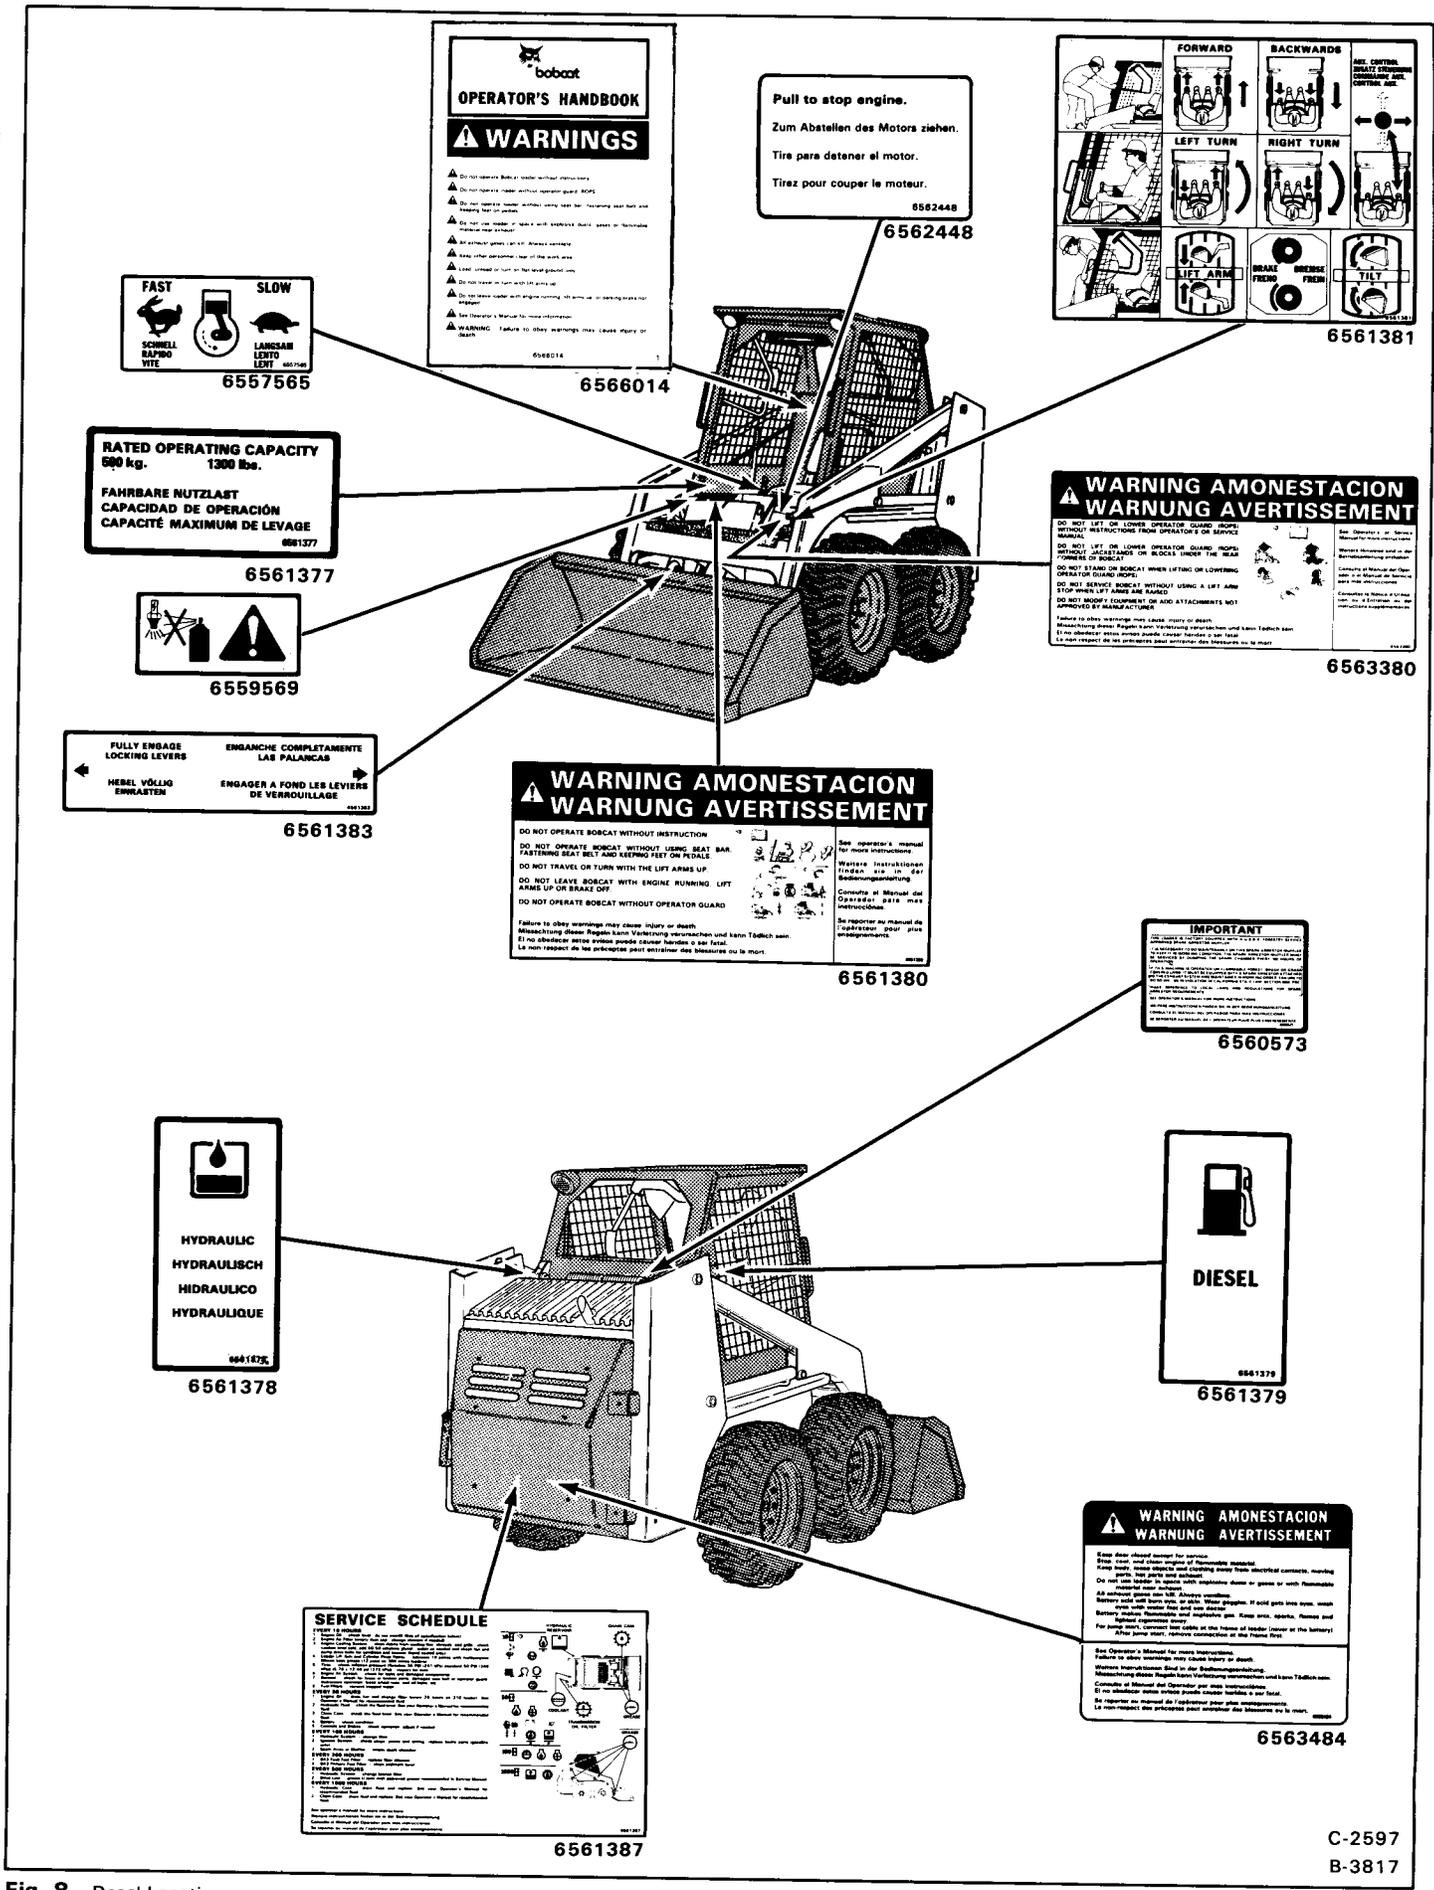

Fig. 8 Decal Locations
7. Follow the instructions on all the safety signs (Decals) that are on the Bobcat loader in the locations shown in figure 8. You must replace any damaged safety signs (Decals) that are not in the correct locations. Safety signs (Decals) are available from your Bobcat dealer.
a. Make sure that the OPERATOR HANDBOOK (Fig. 8) P/N 6566014 is on the Bobcat loader and is read by the operator.